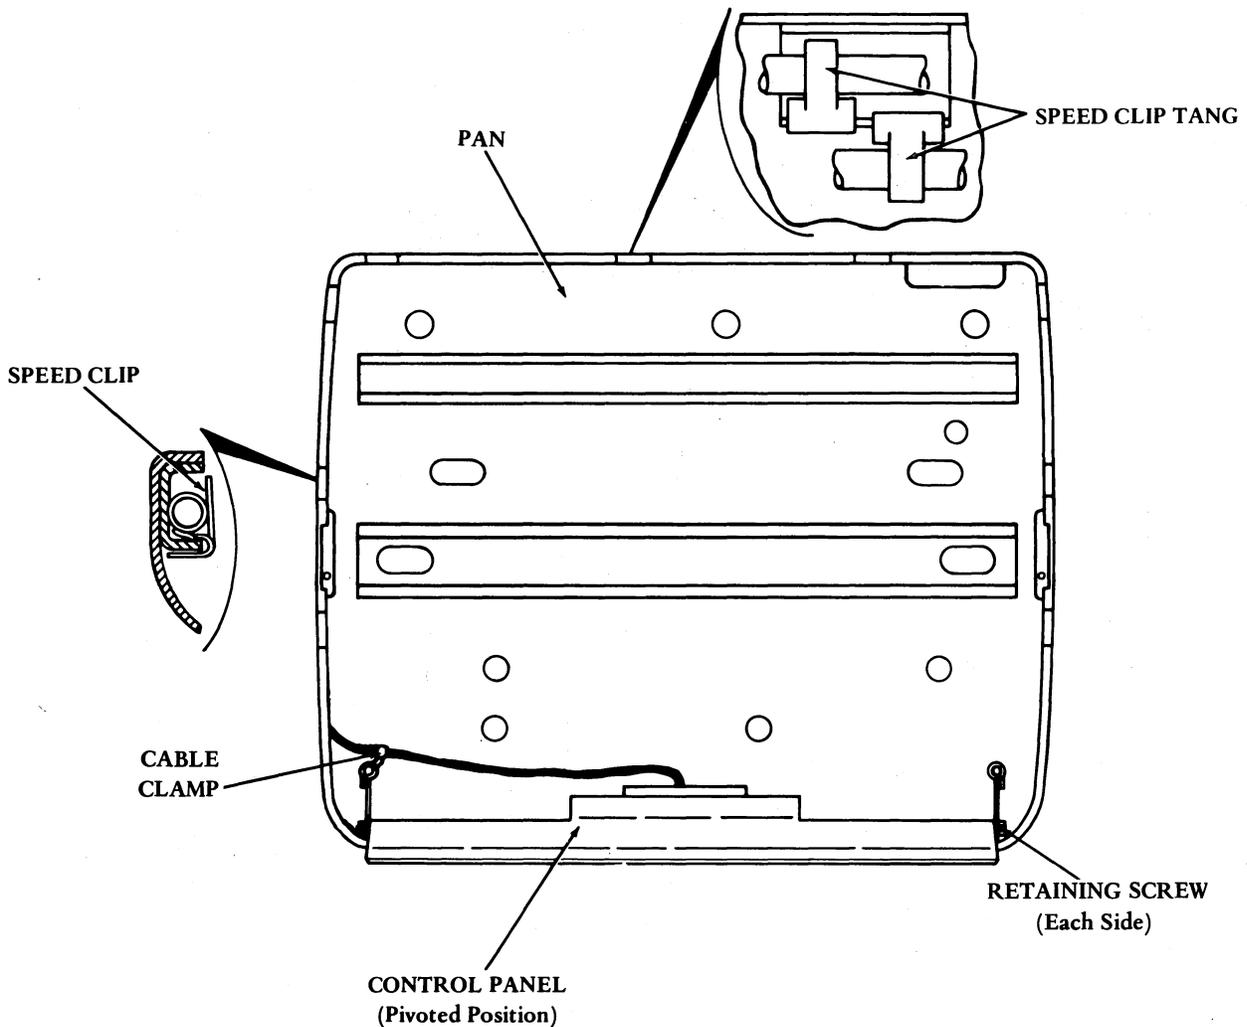

Figure 7 - Control Panel Cable Routing
2.03 To remove the control panel, proceed as follows (Figures 7 and 9).
- 2.11 To remove the typing unit cover and pan, from the table, proceed as follows (Figures 7, 8, and 9).